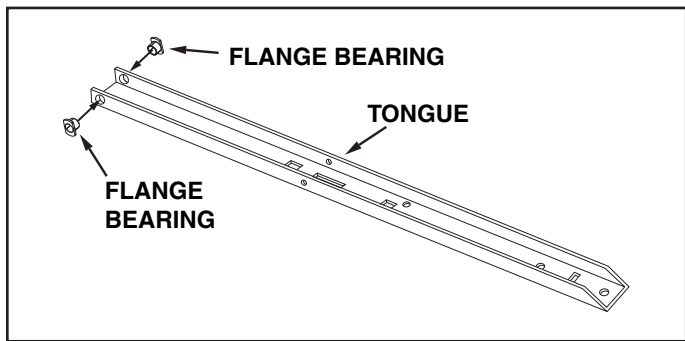

FIGURE 9
13. Insert a flange bearing into each side of the tongue as shown in figure 9.